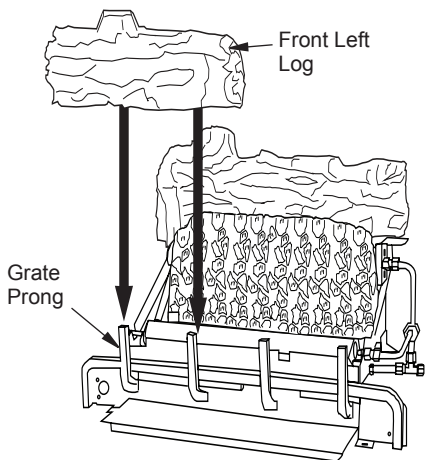

Figure 30 - Installing Front Left Log
3. Position front left log against left side of grate prongs (see Figure 30).